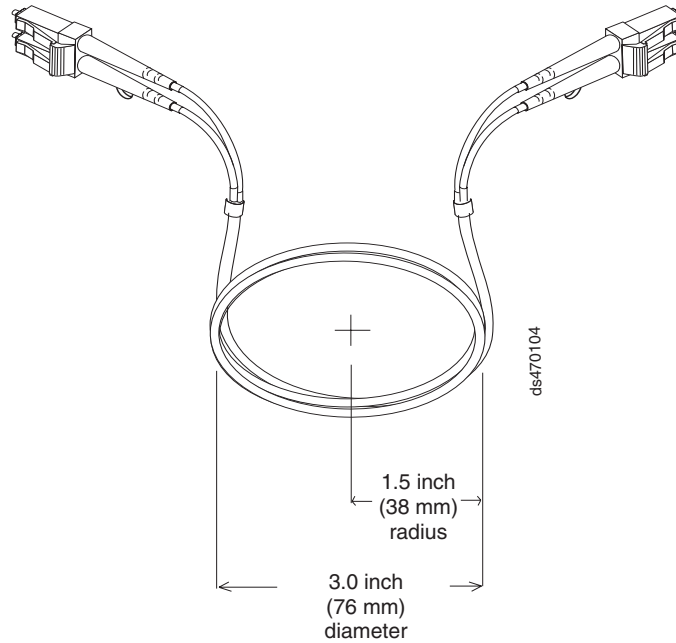

Figure 25. Recommended bending and looping specifications for fibre-optic cables
- When storing excess or unused fibre-optic cables, do not bend the cables to a diameter of less than 76 mm (3 in.), or a radius less than 38 mm (1.5 in.) or wrap them around themselves. See Figure 25 on page 49.